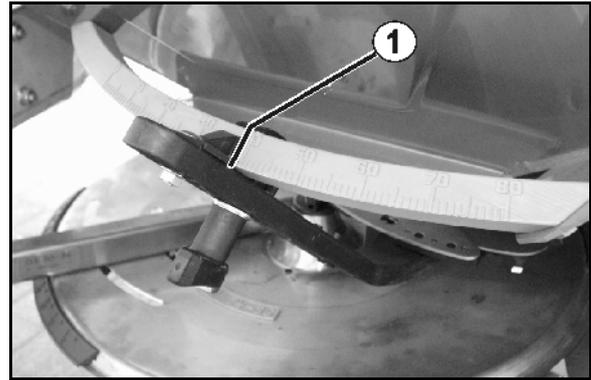

Fig. 42
10.  ,  Press the key until the read-off edge (Fig. 42/1) of the left dosing slider shows the required slider position.